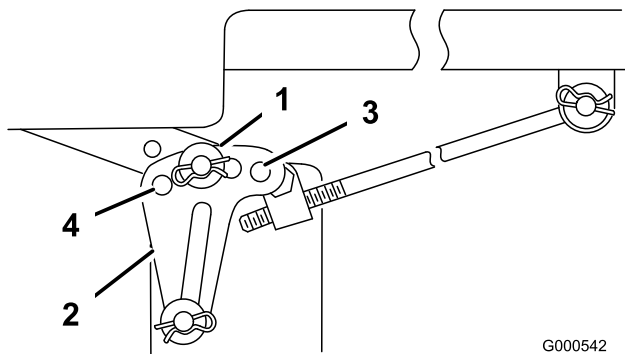

Figure 52
6. Remove the hairpin cotter and washer from the leveling bracket (Figure 52).
7. To level the blade(s), reposition the leveling bracket(s) in a different hole and install the washer and hairpin cotter. (Figure 52). A front hole lowers the blade height and a rear hole raises its height. Adjust both sides as required.